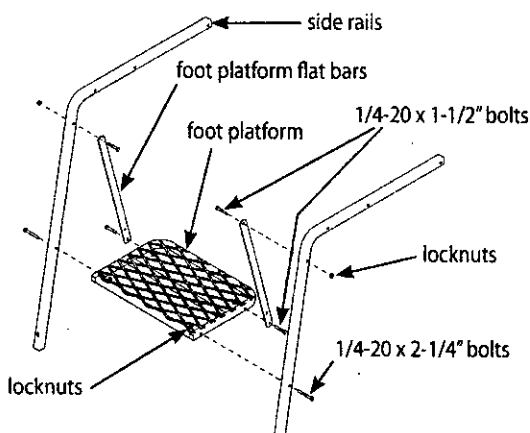

Figure 1
1. Attach the foot platform (1ML26) to the inside of side rails (SL61) using (2) provided 1/4-20 x 2-1/4" bolts and locknuts. **SEE FIGURE 1. DO NOT tighten all nut & bolt assemblies completely!**
2. Attach the foot platform flat bars (SL8) to the inside of side rails and the outside of foot platform using (4) provided 1/4-20 x 1-1/2" bolts and locknuts. **SEE FIGURE 1.**